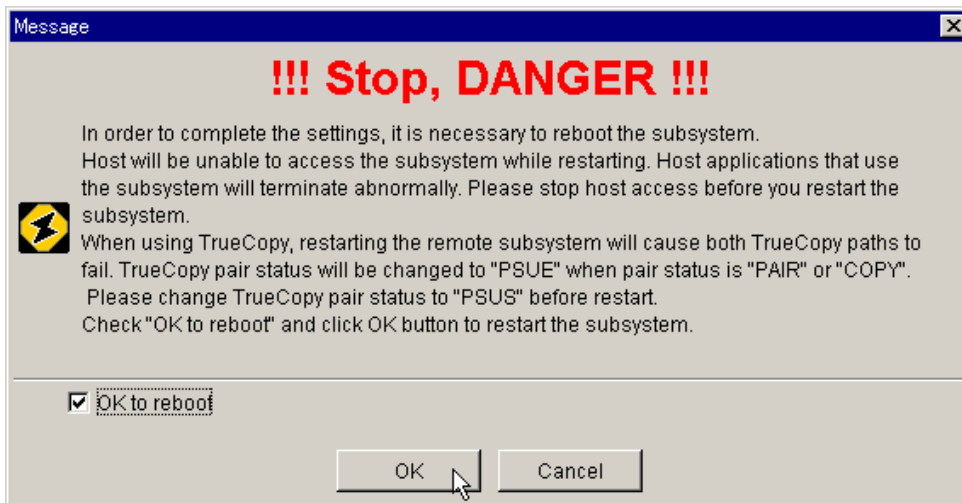

Figure 5.21 Restart Warning Dialog Box
12. If restarting is necessary, the Restart Warning dialog box will display (see Figure 5.21). Stop host access before continuing. If you are using TrueCopy or TrueCopy Extended Distance, change the pair status to PSUS before you reboot. Check **OK to reboot**, and then click **OK** on the Warning dialog box.
7. If restarting is necessary, the **Restart Warning** dialog box will display (see Figure 5.21). Stop host access before continuing. If you are using TrueCopy or TrueCopy Extended Distance, change the pair status to PSUS before you reboot. Check **OK to reboot**, and then click **OK** on the **Warning** dialog box.